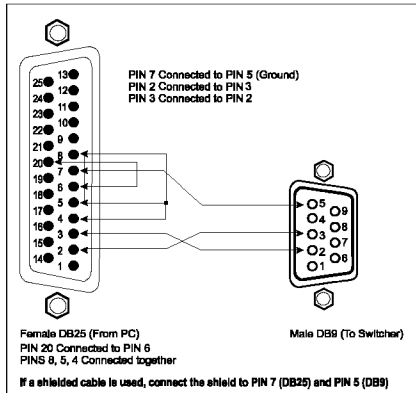

Figure 3: Connecting a PC without using a Null-modem Adapter
- For a 25 pin COM port (DB25): Connect the RS-232 port on your PC to the *RS-232 in* DB9F port on the **VP-43xl Interface Converter** unit, as Figure 3 illustrates